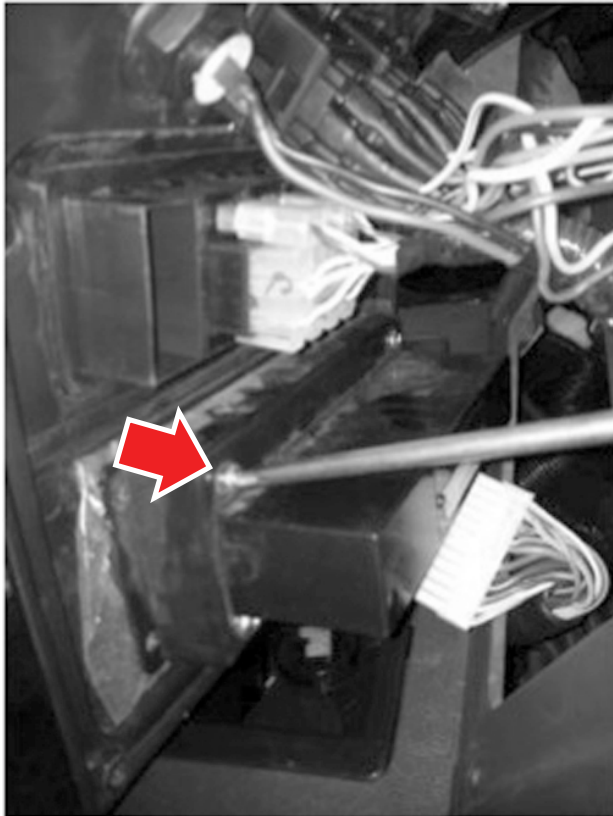

Figure 29-1
1. Remove the four screws affixing the clamp bracket to the rear of the HVAC controller (see Figure 29-1).